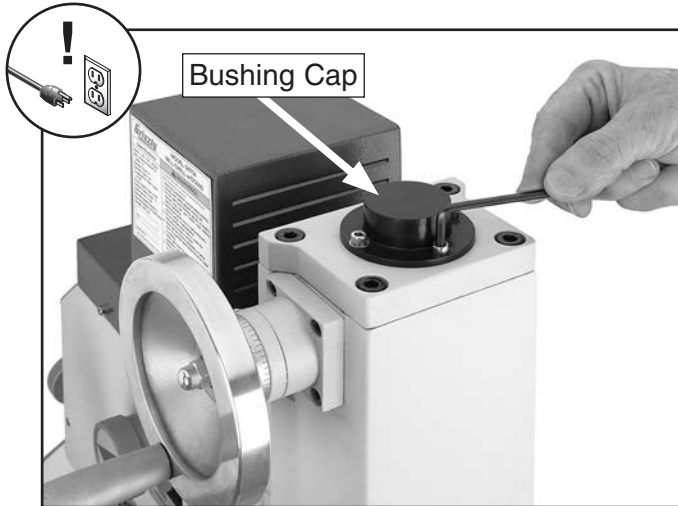

Figure 51. Bushing cap removal.
2. Remove the bushing cap by unthreading the four cap screws that secure it (**Figure 51**).